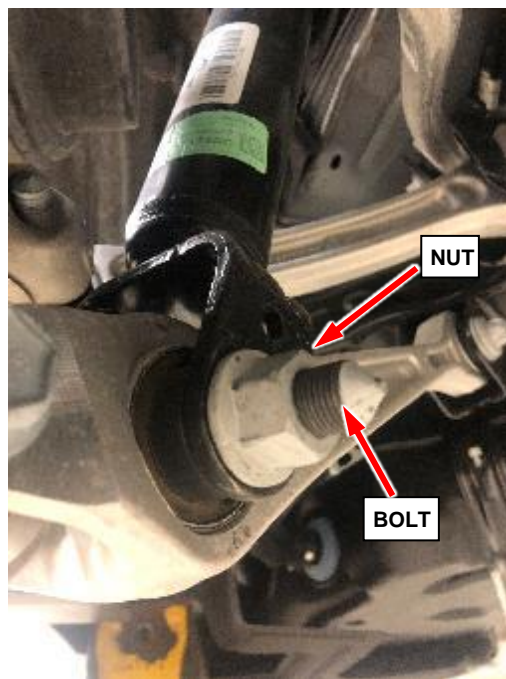

Figure 9 – Lower Shock Clevis
10. Remove the lower shock absorber clevis nut and bolt, then lower the jack under the compression link (Figure 9).
24. Install the lower shock absorber clevis to the compression link. Install the clevis bolt and **NEW** nut and tighten the nut to 50 + 178° N·m (37 + 178° Ft. Lbs.) (Figure 9).